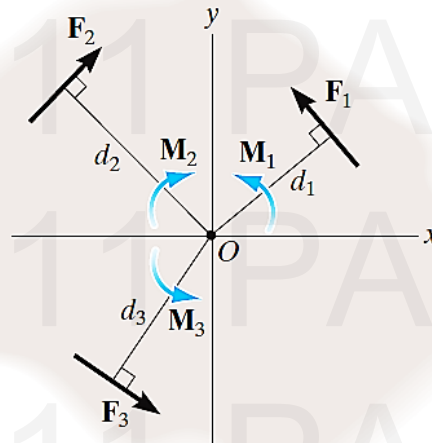

Figure 4-3: Resultant Moment
- For two-dimensional problems, where all the forces lie within the  $x$ - $y$  plane, Figure 4-3, the resultant moment  $(M_R)_O$  about point  $O$  can be determined by finding the algebraic sum of the moments caused by all the forces in the system.
- Using this sign convention, the resultant moment in Figure 4-3 is therefore: